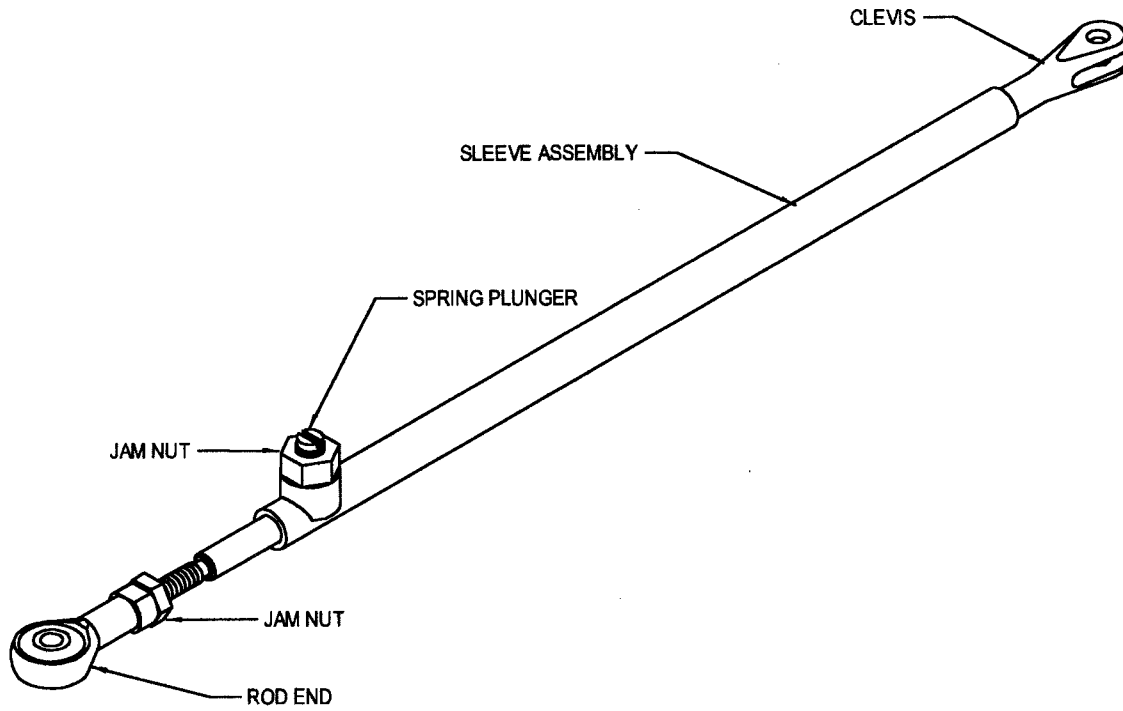

FIGURE 2
- a. Remove the lock wire from the jam nut securing the spring plunger and loosen the jam nut (Refer to Figure 2).